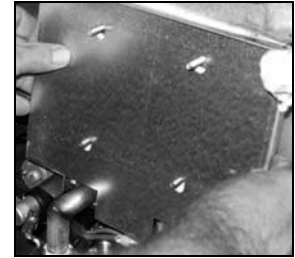

Figure 2
10. Remove the four nuts and cover of the lower insulation retaining cover (see Figure 2).